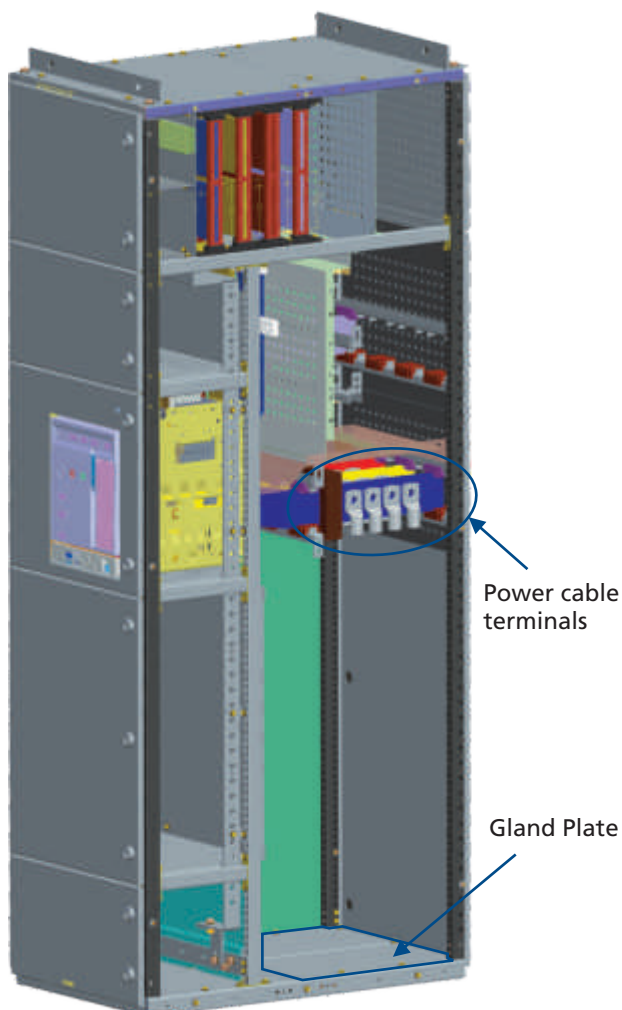

Figure 24 - Power Cable terminals
1. Remove the top plate Figure 24.